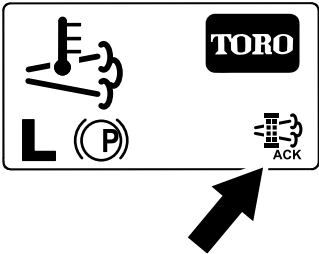

Figure 59
- The InfoCenter displays the home screen and the regeneration acknowledge icon (Figure 59) appears in the lower right corner of the screen as the regeneration processes.